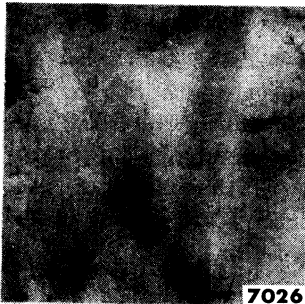

Fig. 32—Bronzing
(12) **BRONZING.** Bronzing is a type of film cast over the original paint, reflecting in a bronze effect (fig. 32). *Use repair procedure (3).*